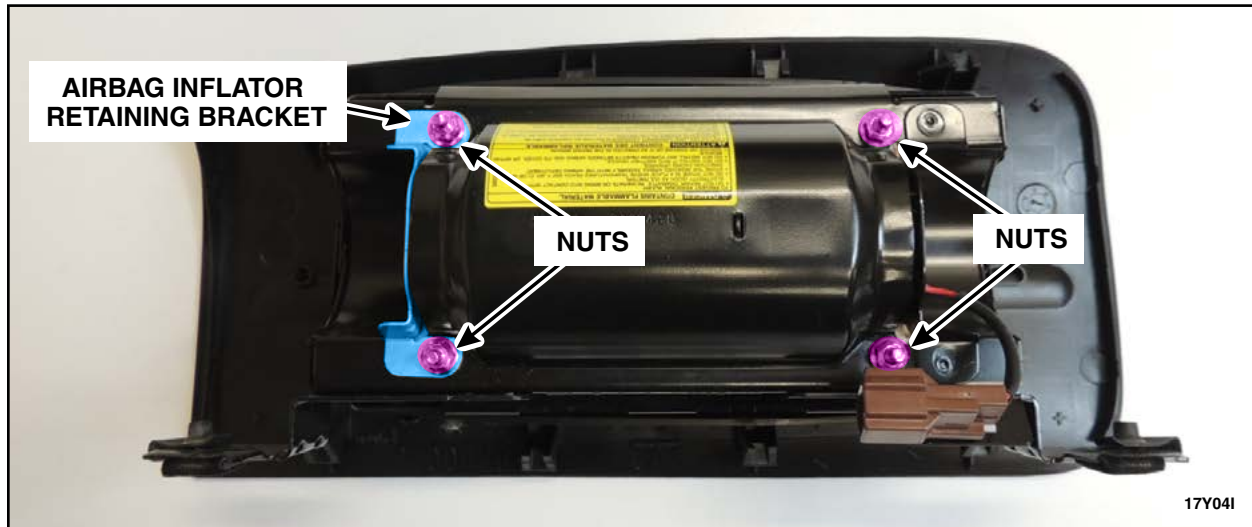

FIGURE 10
4. Remove and discard the four airbag inflator retaining nuts and the bracket. See Figure 10.